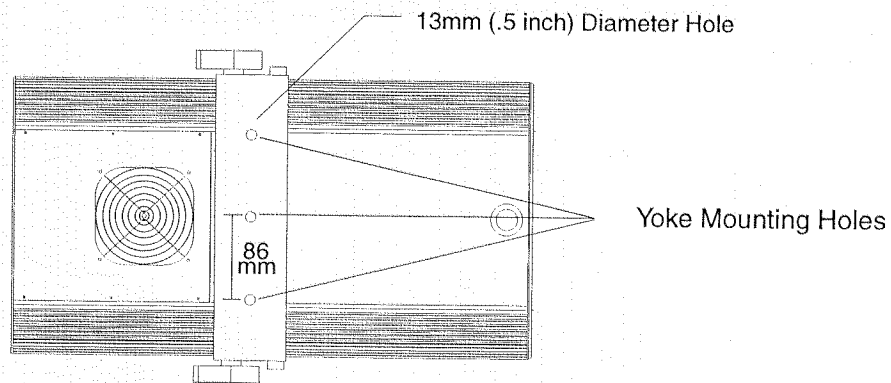

Figure 2.9. emulator Fixture — Top View
5. On the top of each yoke are three 13 mm (.5 inch) mounting holes. They provide two different ways to mount the fixture. The three holes are spaced 86 mm (3.4 inch) apart. Refer to Figure 2.9. The fixture may be mounted with a single clamp in the center of the yoke, or with two clamps on either side of the yoke.
4. The *lamp cap* is attached to the fixture by the *lamp cap wire*. Refer to Figure 2.9. Set the *lamp cap* up out of the way so it is not blocking the *lamp base*.